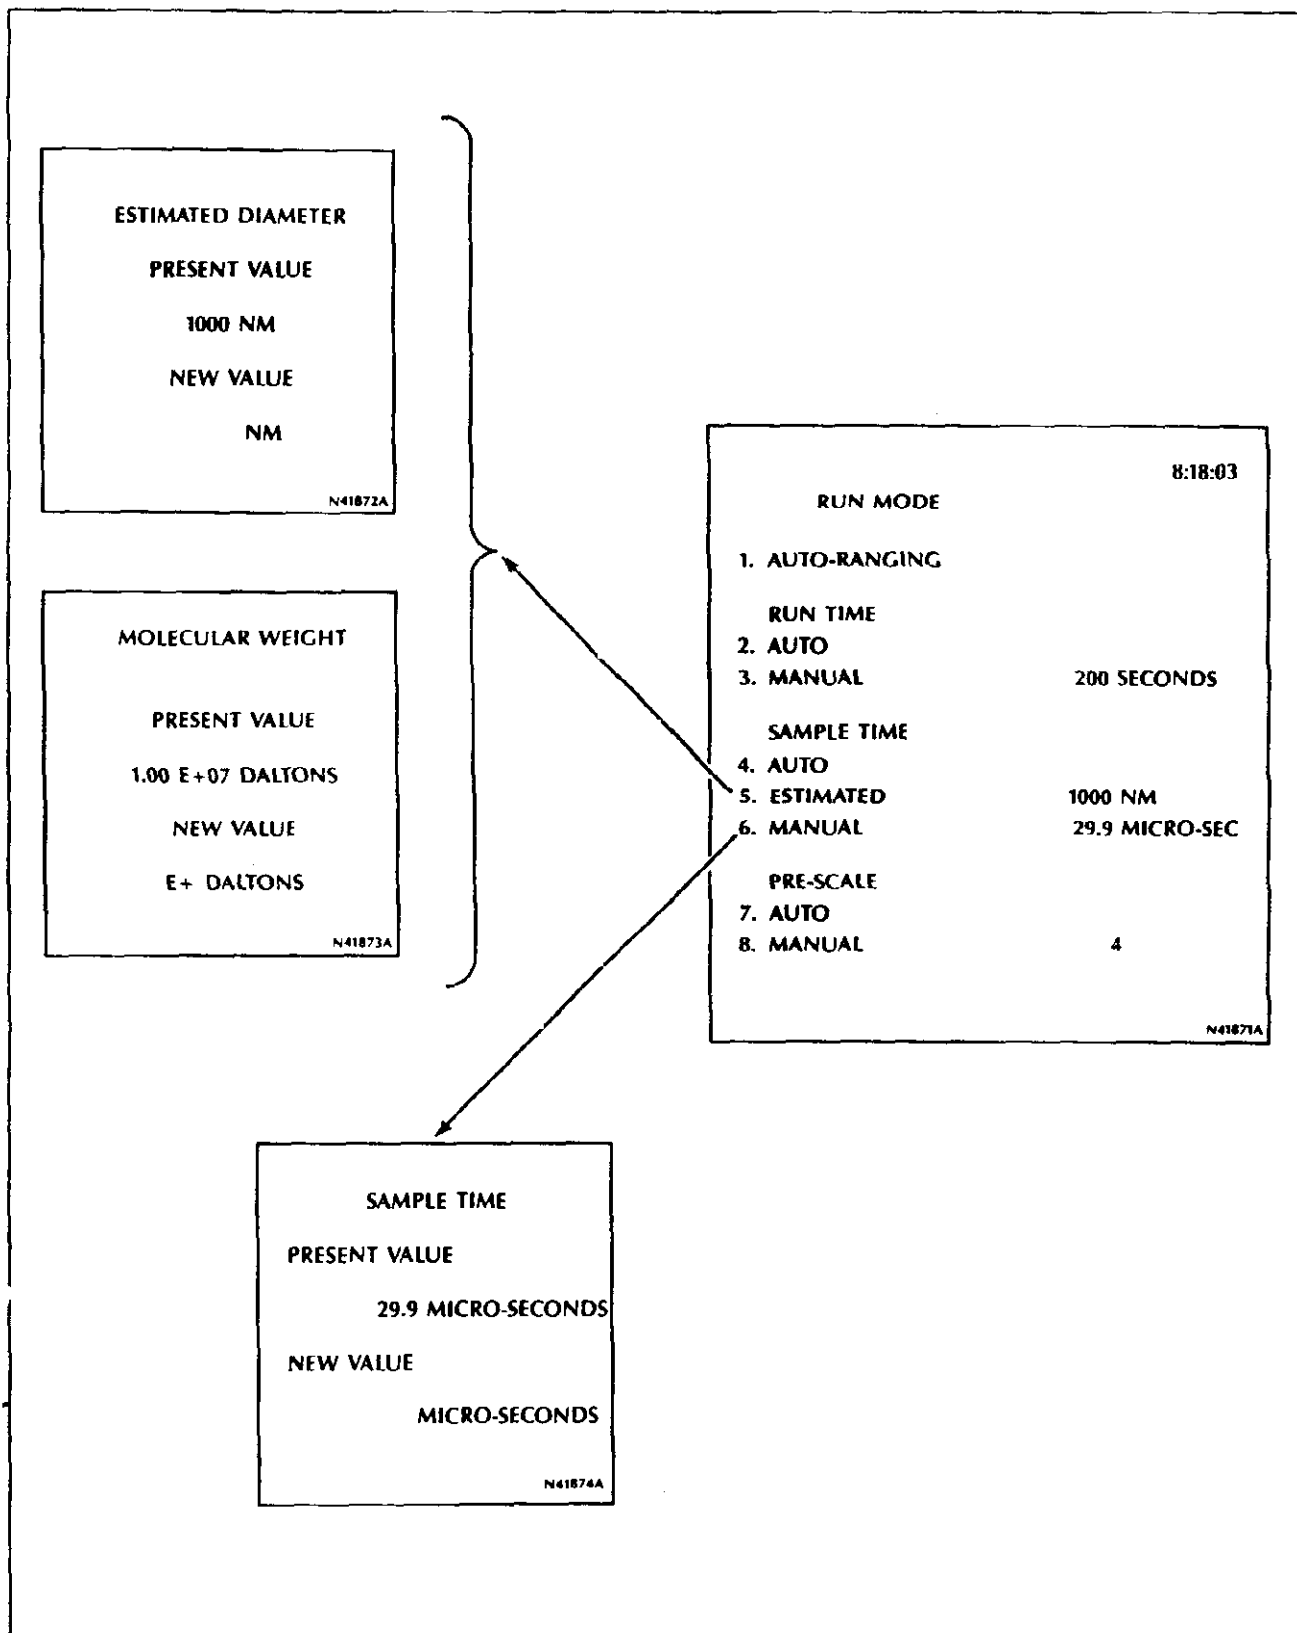

Figure 3.10 Selecting the Sample Time
2) Press <ENTER> again to return to the RUN MODE menu.	2) The RUN MODE menu, Figure 3.10, reappears. The cursor is adjacent to SAMPLE TIME's AUTO.
b. Estimated mode	b. The ESTIMATED DIAMETER screen, Figure 3.10, appears. (The MOLECULAR WEIGHT screen appears if running a molecular weight analysis.)
c. Manual mode	c. The SAMPLE TIME screen, Figure 3.10, appears. The sample time can be selected manually by directly entering the time in microseconds.